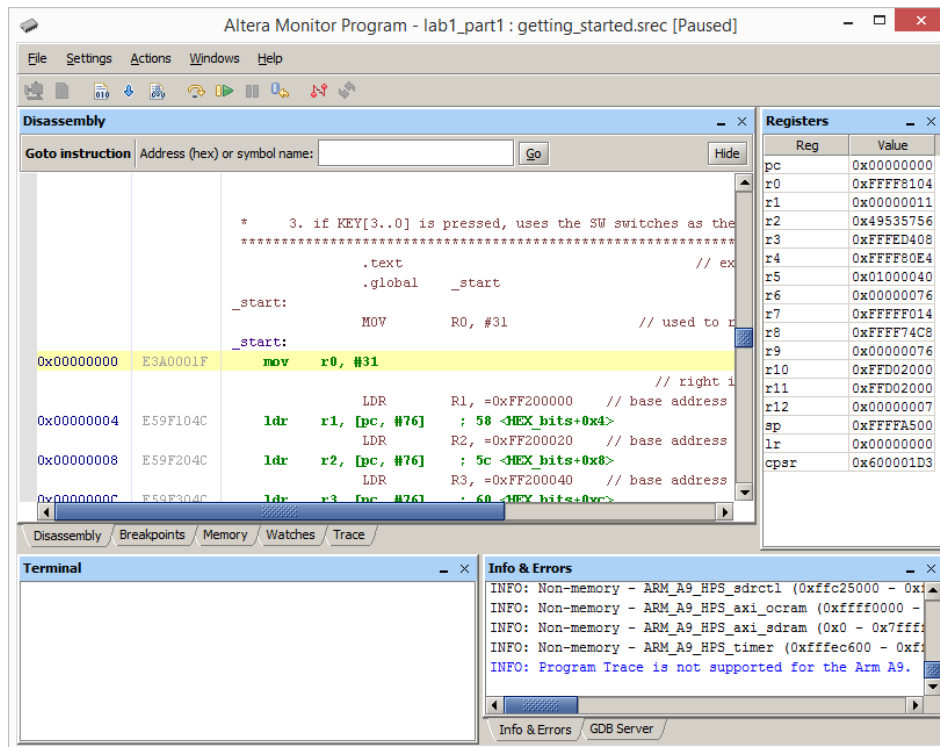

Figure 8: The monitor window showing the loaded sample program.
10. Having downloaded the DE1-SoC Computer into the Cyclone V SoC chip on the DE1-SoC board, we can now load and run the sample program. In the main Monitor Program window, shown in Figure 8, select **Actions > Compile & Load** to load the selected sample program into the FPGA chip. Figure 8 shows the Monitor Program window after the sample program has been loaded.